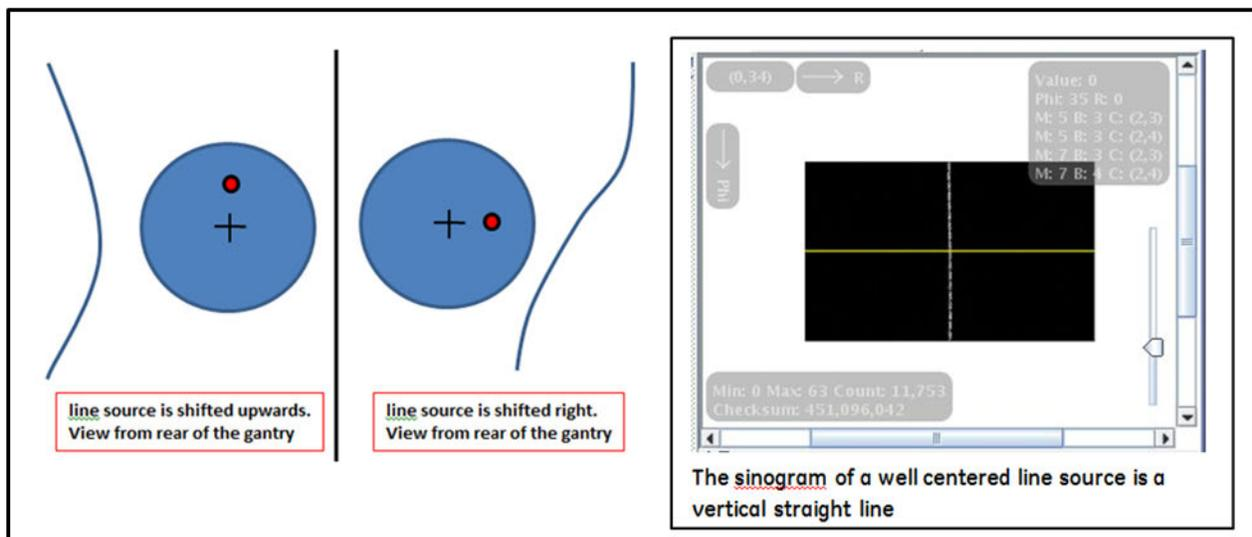

Figure 3.7: Sinogram of line source (improper alignment (left) and proper alignment (right)).
- Option: the deviation between PET and CT centers can be reviewed by opening a sinogram acquired with the line source (described below – see Figure 3.7).
- c. PRESS Show Sino icon on the right-hand side of the investigator dialog box (see Figure 3.7). Open a terminal window and use the window’s edge to check that the line in the sinogram is straight.